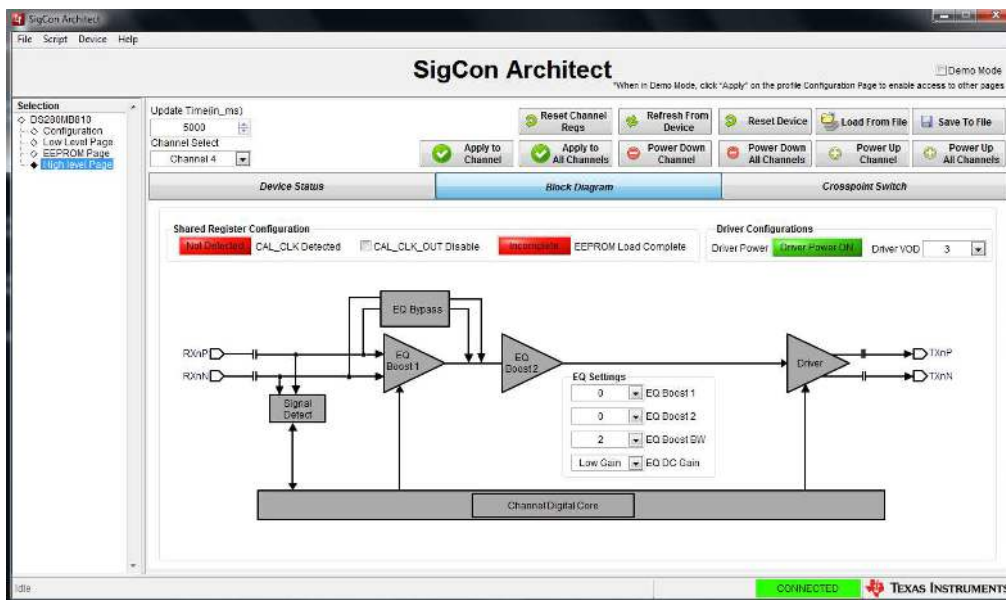

Figure 8. SigCon Architect High Level Page: Block Diagram.
10. In order to program high level settings, navigate to the “Block Diagram” tab on the “High Level Page” as shown below in Figure 8. The EQ Settings and Output Configurations are programmable from this page. In order to navigate to specific channels use the “Channel Select” drop down menu. Click “Refresh from Device” to apply the device’s current settings to the control setting boxes. Click “Apply to Channel” to program the device from the “Block Diagram” page. After programming the device, the changed settings can be verified on the “Device Status” page, Figure 7. The CAL_CLK Detected indicator provides a visual representation of whether a calibration clock is active.
Eye diagram does not pass mask.	<ul style="list-style-type: none"> • Vary EQ Boost Settings as seen in Figure 8.